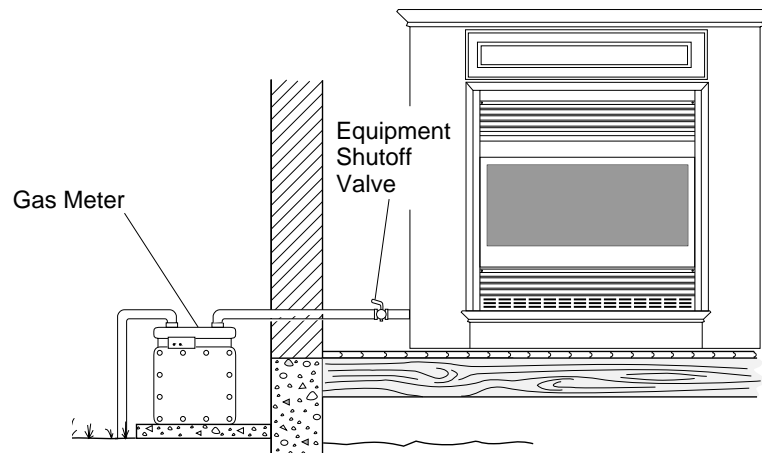

Figure 27 - Checking Gas Joints
3. Check all joints from gas meter to equipment shutoff valve (see Figure 27). Apply mixture of liquid soap and water to gas joints. Bubbles forming show a leak.
4. Check all joints from equipment shutoff valve to thermostat gas valve (see Figure 27). Apply mixture of liquid soap and water to gas joints. Bubbles forming show a leak.